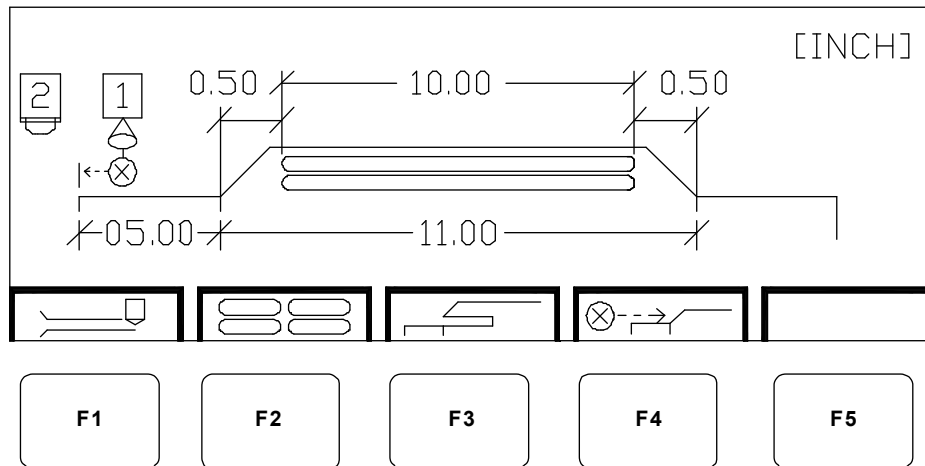

Figure 10-13. Channel-2 Screen
1. To select channel 2, press F5 () (F1 position in mode 2). The channel-2 screen (Figure 10-13) displays.